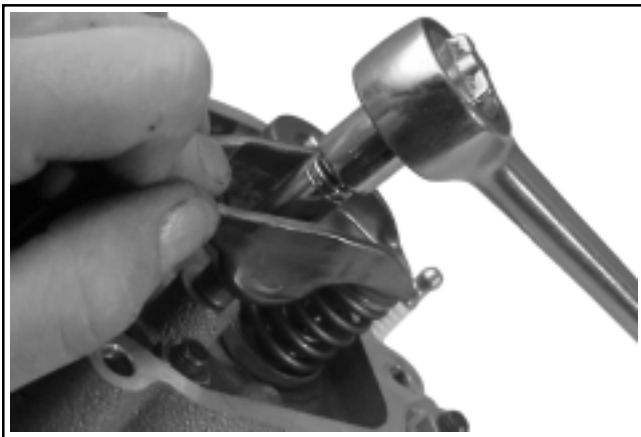

Figure 11-34. Establishing "0" Lash/ "0" Preload.
10. **With the lifter still compressed**, slowly tighten the rocker arm fastener (clockwise) until the free end of the rocker arm just makes contact with the end of the valve. See Figure 11-34.